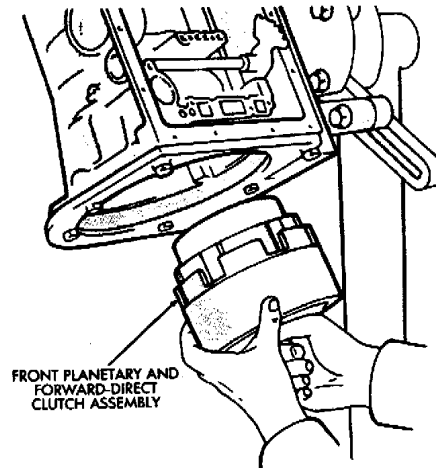

Fig. 29 Installing Front Planetary And Forward-Direct Clutch Assembly
- (36) Rotate front of transmission case downward and install assembled planetary gear/forward-direct clutch (Fig. 29).